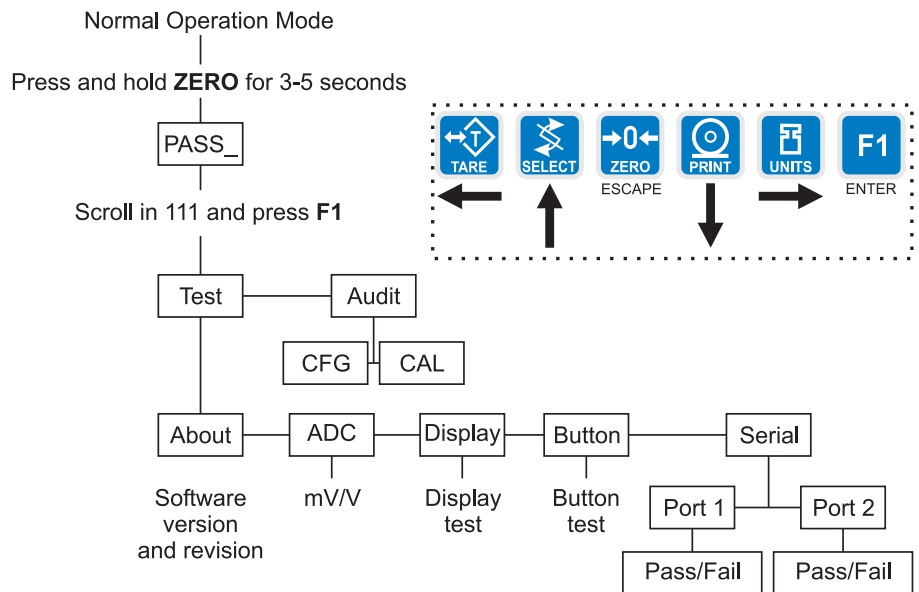

Figure 5
2. Use the arrow keys to scroll in the User menu password = 111 and press **F1**. See note at left. Figure 5 shows a flowchart of the User menu items. Use the keys shown in the box in Figure 5 to navigate through the menu and choose the items you want.